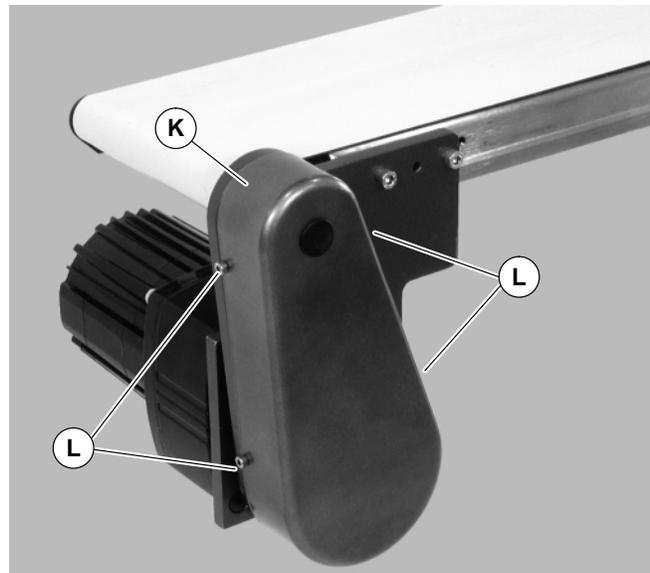

Figure 9
8. Install cover (K of Figure 9) with four (4) screws (L). Tighten to 35 in-lb (4 Nm).
1. Remove four (4) screws (L of Figure 9) and remove cover (K).
4. Install cover (K of Figure 9) with four (4) screws (L). Tighten to 35 in-lb (4 Nm).
6. Install cover (K of Figure 9) with four (4) screws (L). Tighten to 35 in-lb (4 Nm).
4. Remove four (4) screws (L of Figure 9) and remove cover (K).